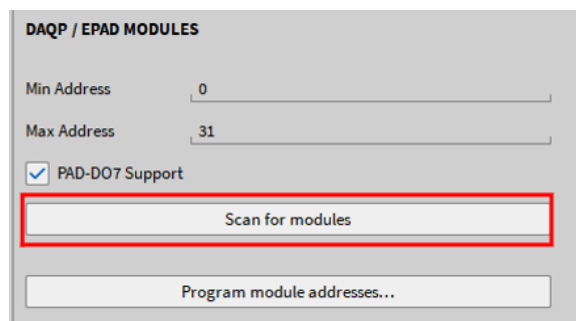

Fig. 4.24: *Scan for modules* button
- Press the *Scan for modules* button (see Fig. 4.24). The system will scan the selected Serial Port for any present EPAD2 modules. The status can be seen in the lower right corner of the software.